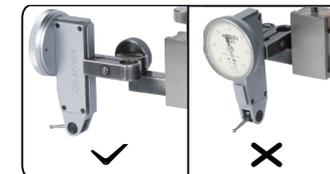

fig.2
--- Please install dial test indicator correctly as (fig.2).